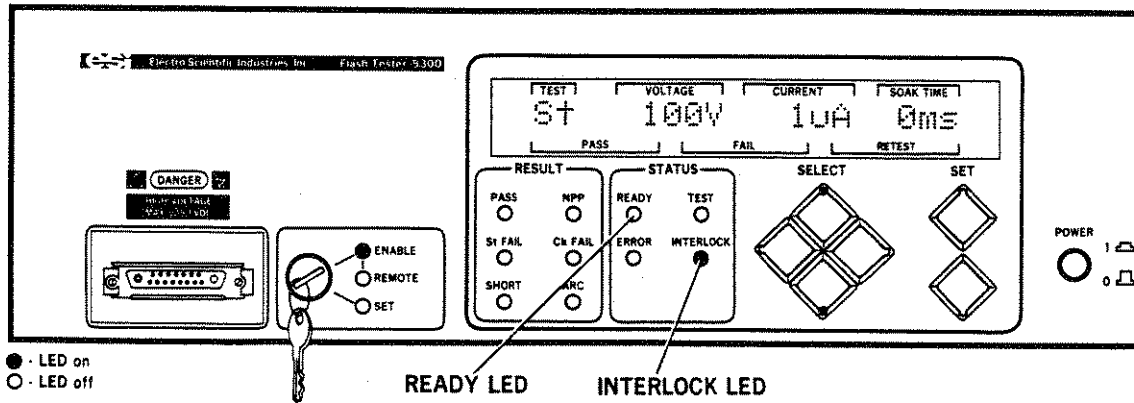

Figure 7-65. READY and INTERLOCK LEDs
STEP 21. Verify that the interlock is closed by observing the INTERLOCK and READY LEDs on the 5300. The READY LED should be illuminated; the INTERLOCK LED should not. Refer to Figure 7-65 for the locations of these LEDs.